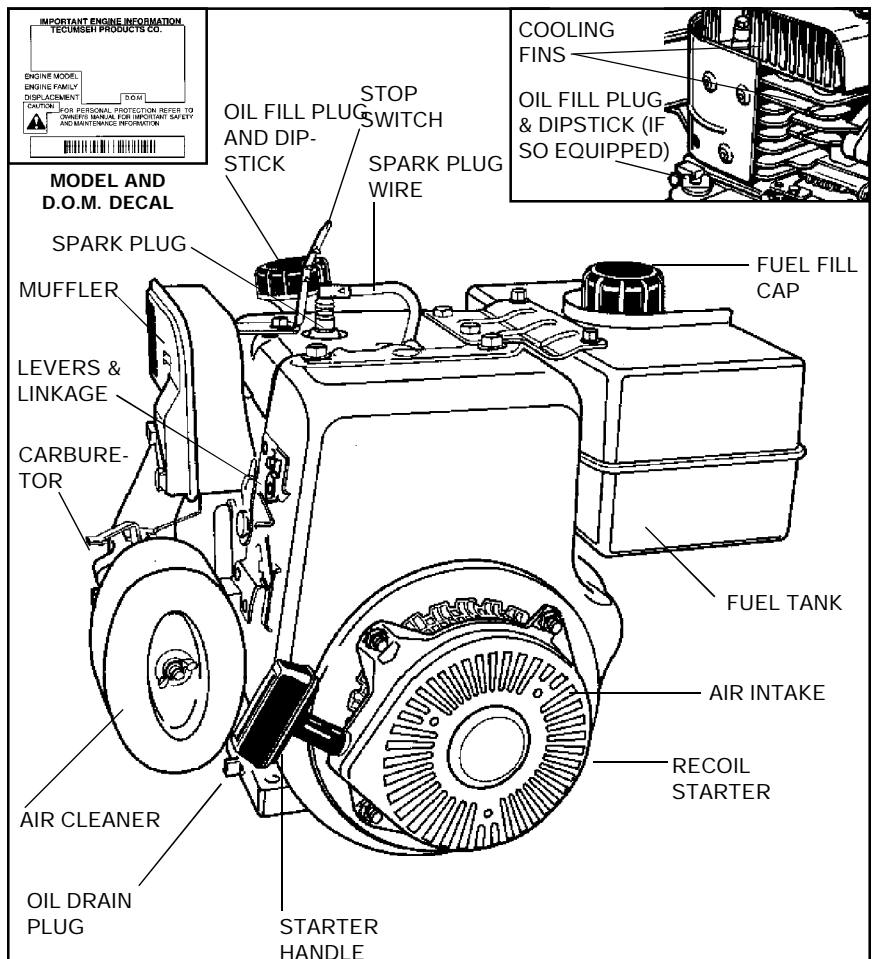
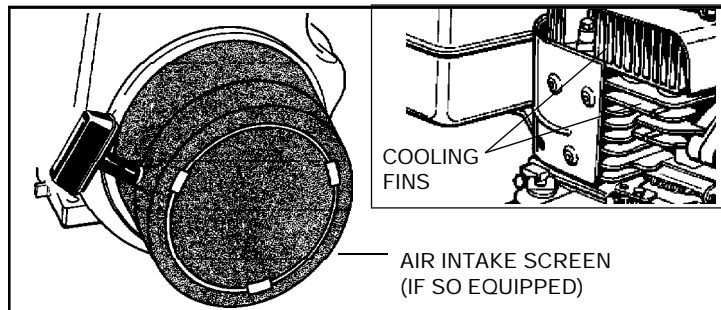

Figure 1
Figure 5
- Clean area around oil fill plug (see Figure 1).
- Be sure spark plug wire is attached to spark plug (see Figure 1).
- Be sure stop switch (if so equipped see Figure 1) is not contacting spark plug.
- Grasp starter handle (see Figure 1) and pull rope out, slowly, until it pulls harder. Let rope rewind slowly. Then pull rope with a rapid full arm stroke. Let rope return to starter slowly.
**NOTE:** If engine fails to start after three (3) pulls, move choke lever to "NO CHOKE POSITION" and pull starter rope again.
- ⚠️ Push stop switch (if so equipped see Figure 1) located next to spark plug on engine against spark plug and hold it in this position until engine is completely stopped.
### ⚠️ CHANGE OIL (see Figure 1):
- B. Clean area around oil drain plug (see Figure 1).
### ⚠️ COOLING SYSTEM (see Figure 1 and Figure 5):